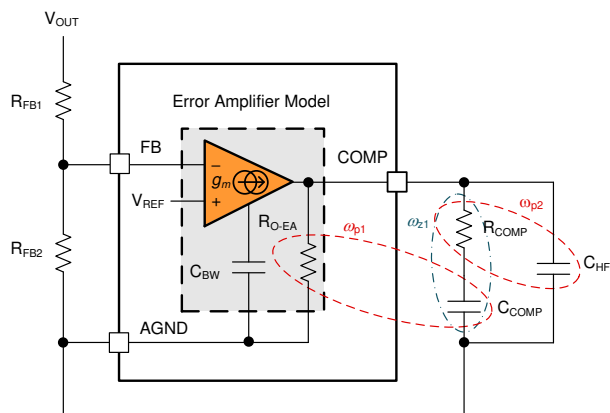

图 9-4. Error Amplifier and Compensation Network
图 9-4 shows a type-II compensator using a transconductance error amplifier (EA). The dominant pole of the EA open-loop gain is set by the EA output resistance,  $R_{O-EA}$ , and effective bandwidth-limiting capacitance,  $C_{BW}$ , as shown by 方程式 29.